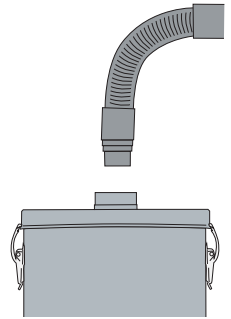

figure 8
2. Remove the flexible hose from unit lid adaptor (**figure 8**).